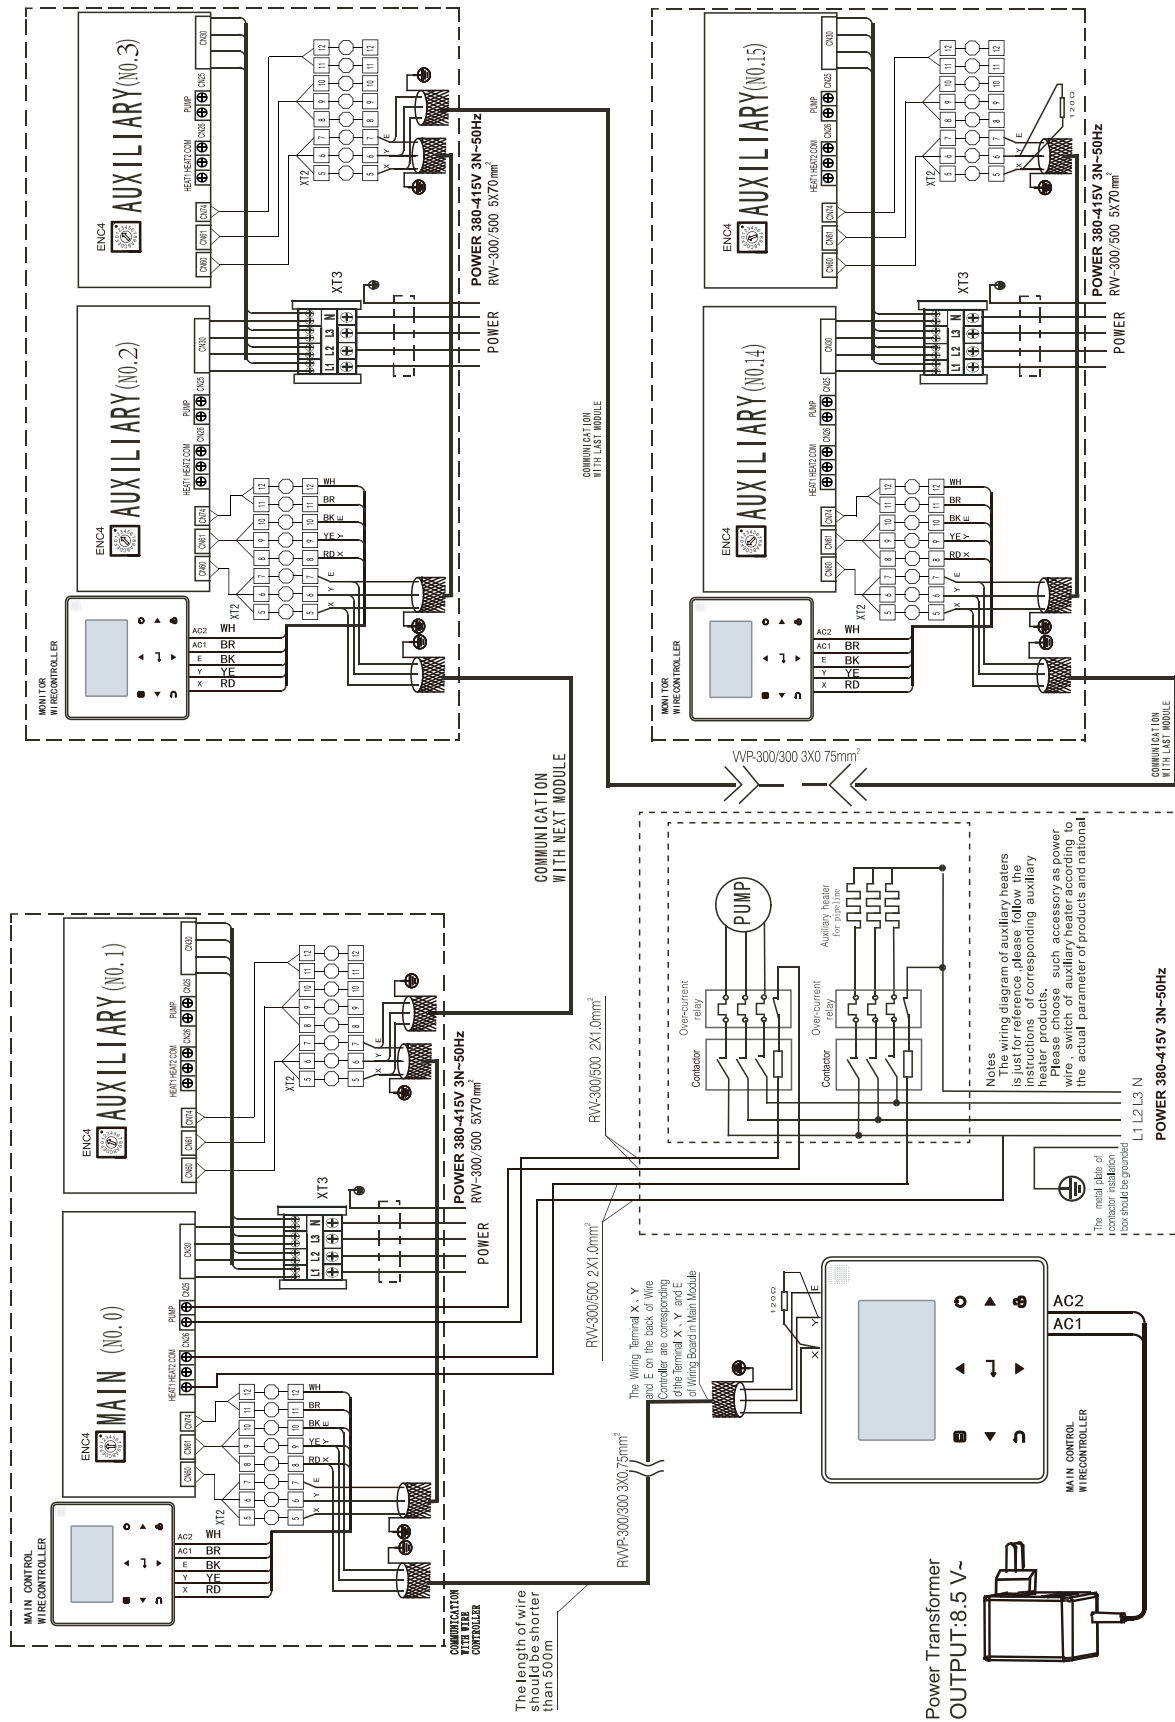

Fig. 8-28 Networking communication schematic of main unit and auxiliary unit for SCV-1800EB
- c) The inlet pipe of the evaporator must be provided with a target flow controller, to realize flow-break protection for the unit. Both ends of the target flow controller must be supplied with horizontal straight pipe sections whose diameter is 5 times that of the inlet pipe. The target flow controller must be installed in strict accordance with "Installation & Regulation Guide for Target Flow Controller" (Fig.8-28,8-29). The wires of the target flow controller should be led to the electric cabinet through shielded cable (see Electric Controlling Schematic Diagram for details). The working pressure of the target flow controller is 1.0MPa, and its interface is 1 inch in diameter. After the pipelines are installed, the target flow controller will be set properly according to the rated water flow of the unit.